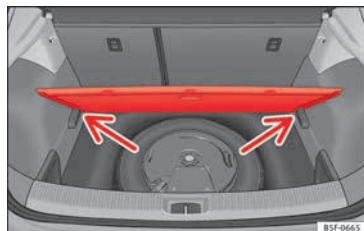

Fig. 179 Luggage compartment: variable floor
- Rest the floor on its housings » **Fig. 179** (arrows).